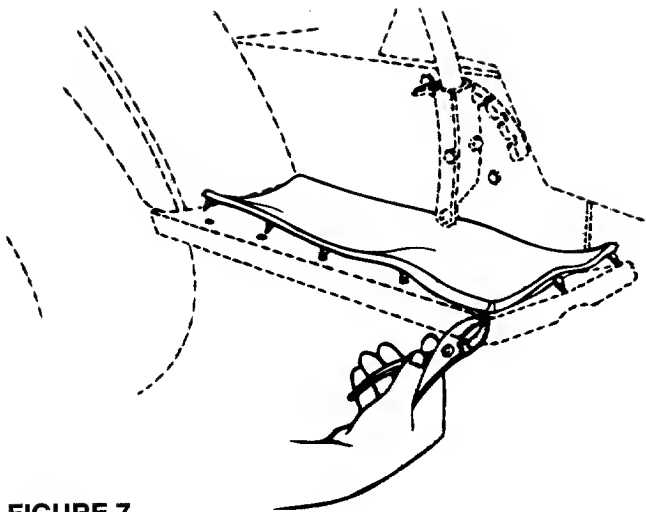

FIGURE 7.
1. If not already assembled, attach foot pads as follows. Position one foot pad on top of the running board on the tractor, lining up the studs on the bottom of pad with the holes in the running board. Pull the studs through the holes in the running board using a pair of pliers. Repeat on other side of tractor. See figure 7.